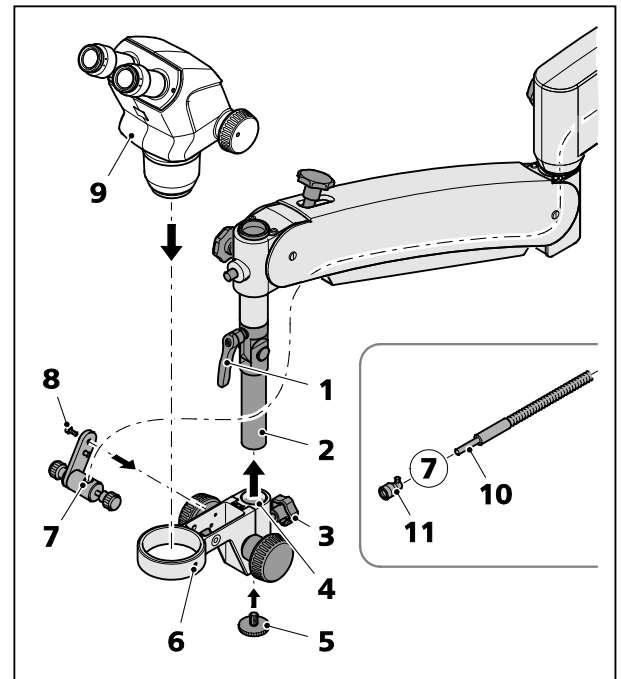

Fig. 5 Installing Stemi carrier and microscope body
- Loosen the clamping lever (Fig. 5/1) on the tilting head Fig. 5/2).
- Align the tilting head (Fig. 5/2) vertically or set in desired angular position, then re-tighten the clamping lever.
The angular position of the clamping lever (Fig. 5/1) can be set to a position that is convenient for the clamping procedure. To this end, pull the lever until it comes out of the click stop and turn it into the desired angular position. After releasing the lever, it will automatically snap in again by a spring mechanism.
- Unscrew the end piece (Fig. 5/5) from the tilting head (Fig. 5/2).
- Slip the Stemi mount (Fig. 5/4) from the bottom over the tilting head and secure it in the desired position by means of the star knob (Fig. 5/3).
- Screw the light guide holder (for optic fiber) (Fig. 5/7) with 3 mm Allen screw (Fig. 5/8) onto the Stemi mount.
- Push the optic fiber end (Fig. 5/10) into the hole on the light guide holder (Fig. 5/7) and clamp it on the metal sleeve (10 mm diameter) using the head screw. Please note: do not clamp onto the flexible hose.
- Pull the focusing optics (Fig. 5/11) up to the stop on the optic fiber and screw it in.
- Insert the microscope body, e.g. Stemi 508 (Fig. 5/9), into the mounting hole of the Stemi carrier and fix using the clamping screw (Fig. 5/6).